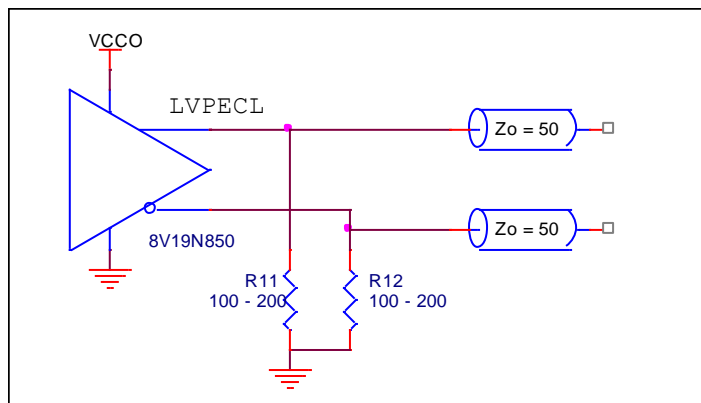

Figure 1. LVPECL Driver Example
- Figure 1. LVPECL Driver Example2